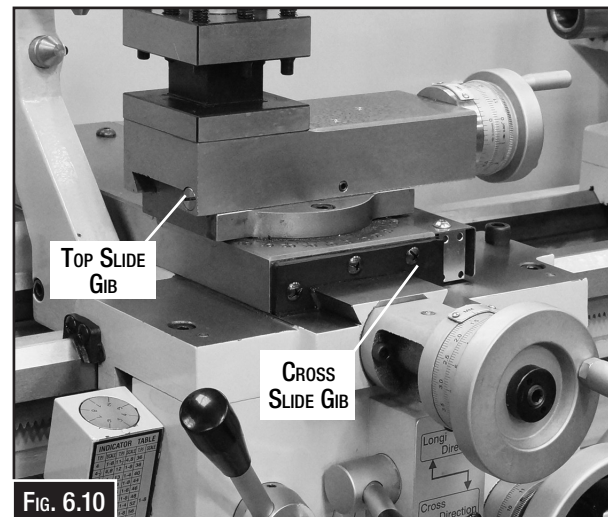

FIG. 6.10
2. Release the rear gib screw and tightening the front screw a little at a time. Check constantly for a smooth action throughout the full slide travel. (Fig. 6.10)